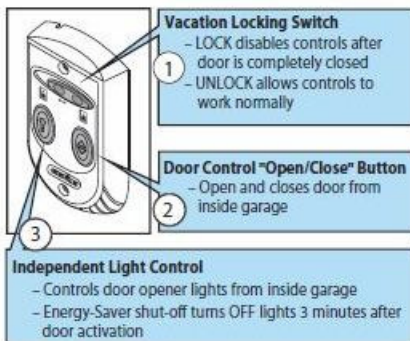

FIG. 3-5 Mounting Entrapment warning label.
- Remove protective backing from "Entrapment" warning label (Fig. 3-5). The "Entrapment" label is located in the center of this manual.